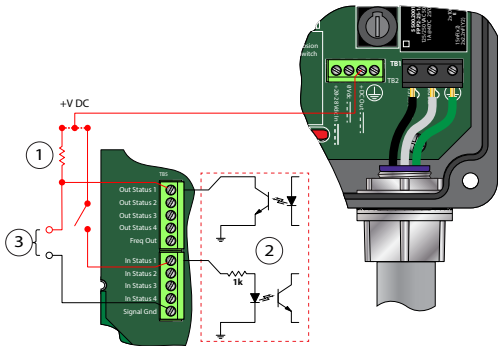

Figure 20: Status inputs and outputs internally powered
*With the transmitter oriented as shown in *Figure 20*, the correct landing for the shield wire is the screw located on the furthest bottom left area of the main board, closest to the sensor wire entry point of the transmitter.